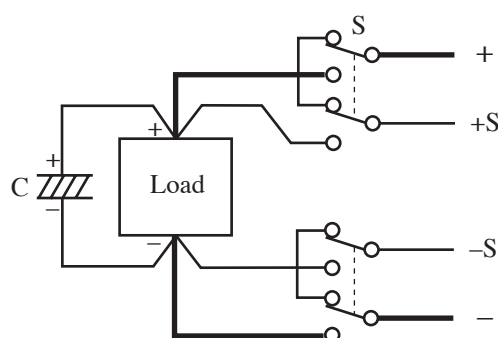

Fig. 4-5 Power ON/OFF using mechanical switches
- To turn on/off the power supplied to a load using a mechanical switch, provide additional switches between the sensing wires as shown in Fig. 4-5; turn on/off the power and remote sensing function simultaneously.
5. Connect an electrolytic capacitor (C) with a capacity of approx. 0.1 μ F to 100 μ F across the load terminals.
- Use a capacitor (C) whose withstand voltage is 120 % or more of the unit's rated output voltage.
- If the length of wiring to a load extends to 3 m or more, the phase shift caused by the inductance and capacitance of the wiring becomes non-negligible, thereby causing oscillation. In such cases, the capacitor (C) prevents oscillation.
- If the load current changes suddenly to pulse form, the output voltage may increase due to effects from the inductance components of the wiring. In such cases, the capacitor (C) also prevents variations in output.